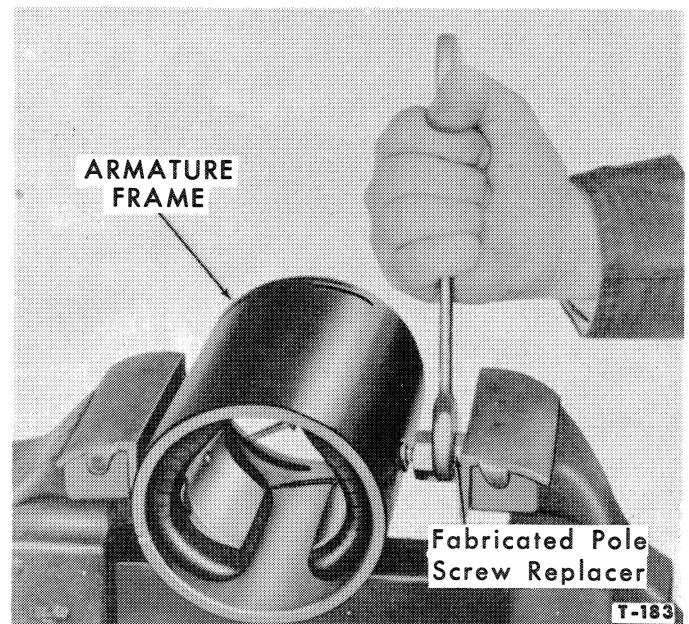

Figure 17—Removing Pole Screw
2. To remove the field coils, remove the field and ground terminal screws from the armature frame. Remove the two pole screws as shown in Figure 17. The tool can be fabricated by electric welding a piece of $\frac{5}{16}$ inch square bar stock in a nut.
Position the pole shoes in the field coils. Place the field coils in the armature frame and install the two pole screws and tighten them as shown in Figure 17.
3. Unsolder the field coil shunts from the terminal stud. Remove the pole screws that attach the pole shoes and field coils to the frame as shown in Figure 17.
The tools used in Figure 17, can be fabricated by electric welding a $\frac{5}{16}$ x 1 inch piece of square bar stock to a nut.